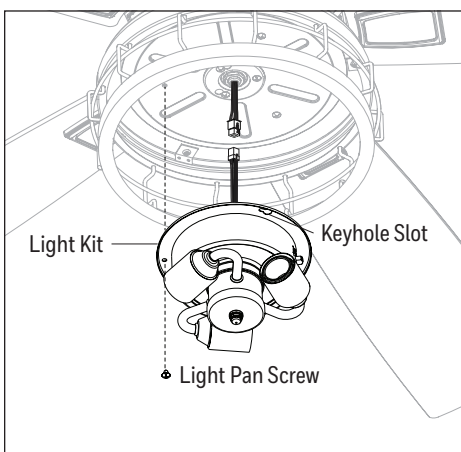

Figure 5.7
- Remove one of the three light pan screws from the light pan and loosen the other two but do not remove. Connect the 9-pin connector from the light pan to the 9-pin connector from the light kit. Lift the two keyhole slots in the light kit over the two loosened light pan screws and turn in a clockwise direction. Then, use the previously removed light pan screw to secure the light kit to the light pan. Tighten all screws (Figure 5.7).